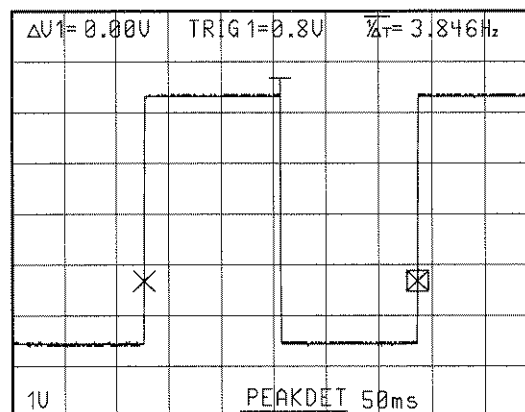

Figure 3-25: Low-Frequency Signal in the STORE Mode
- Step 7:** Set the oscilloscope to **STORE** mode (Figure 3-25). Note that the annoying flicker of the **NON-STORE** display is removed.